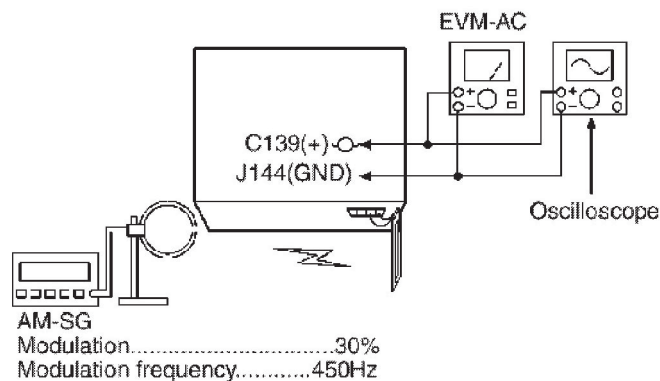

Fig.5
1. Connect the instrument as shown in Fig. 5.
3. Apply signal as shown in Fig. 5 from AM-SG